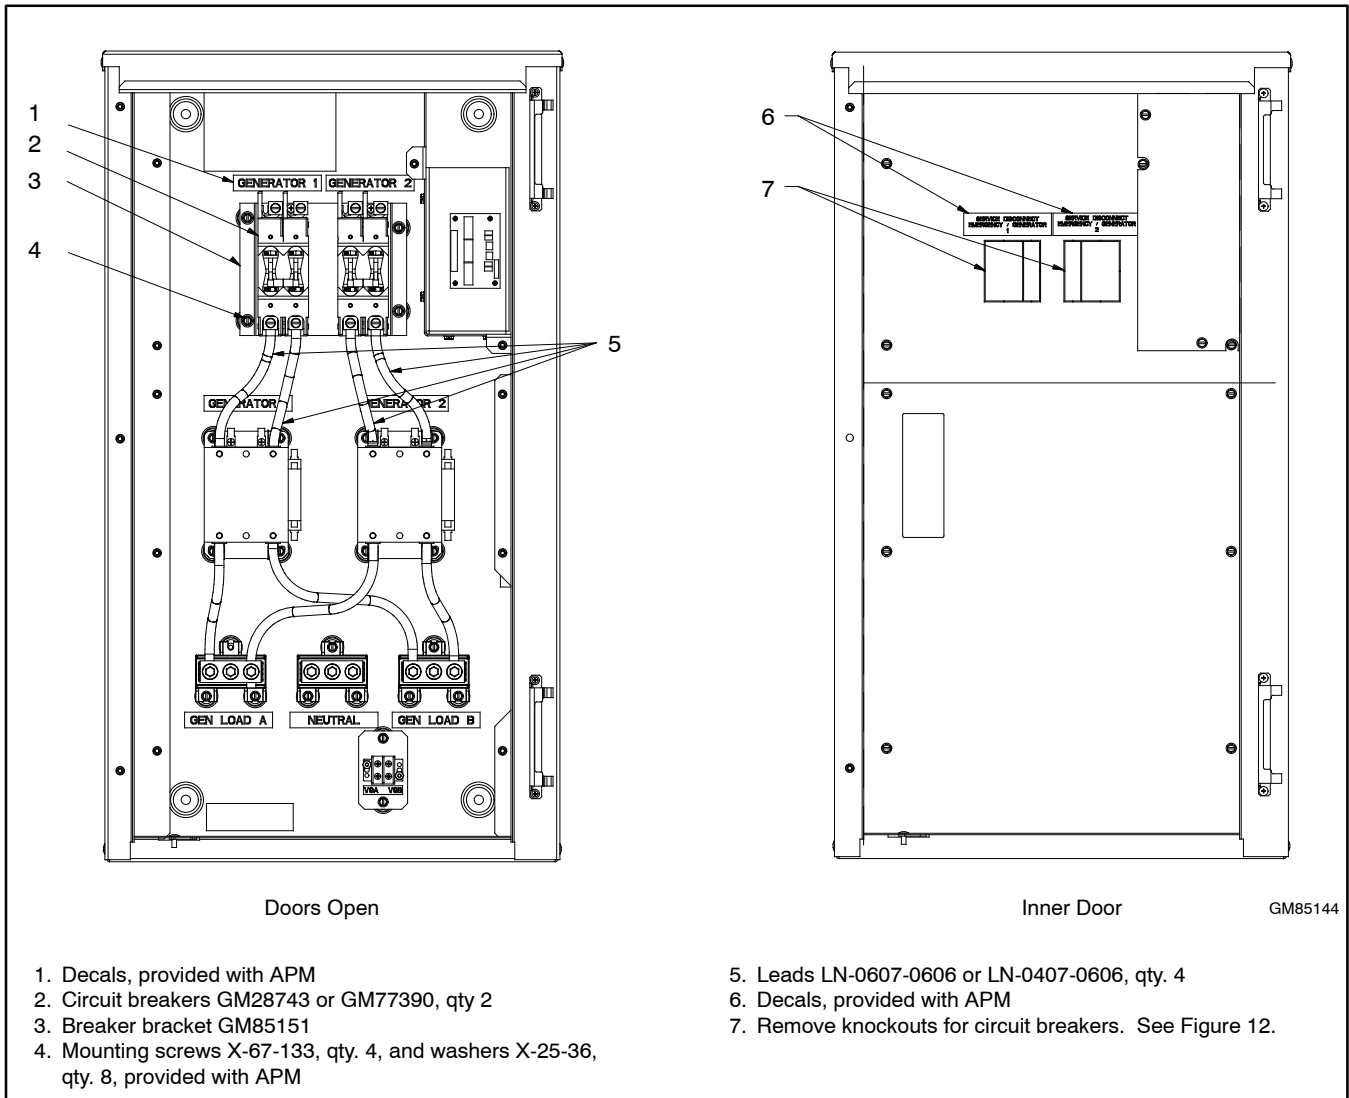
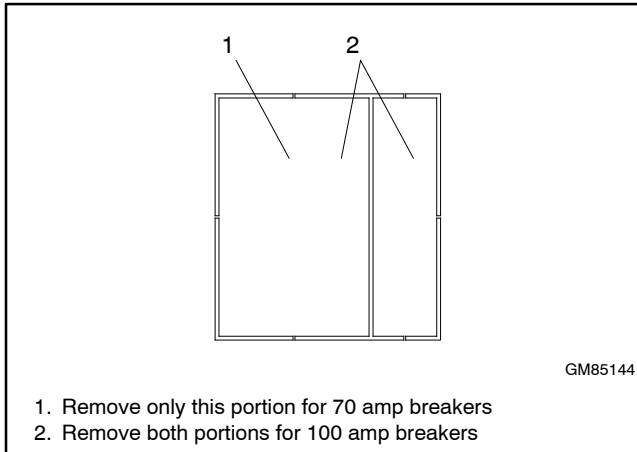
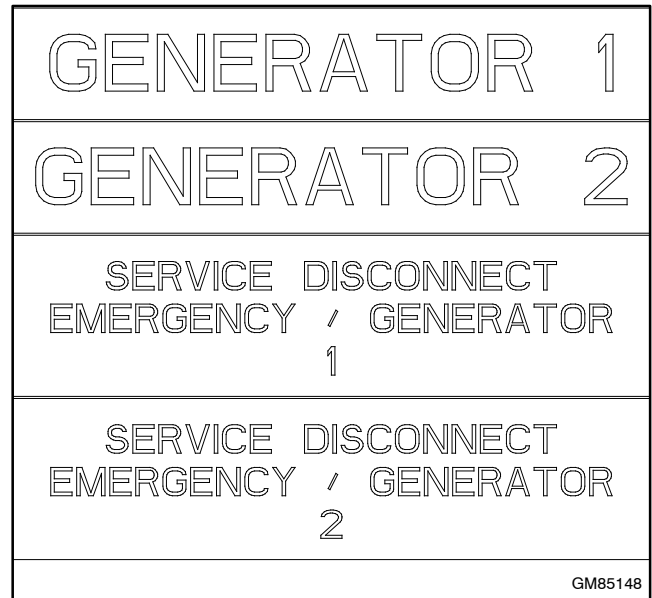
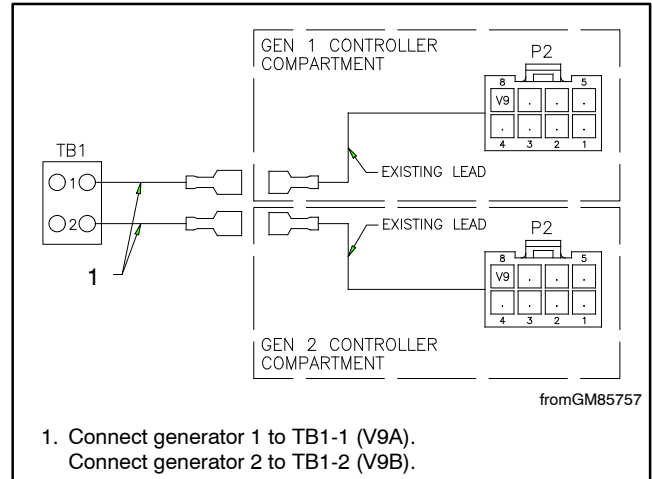

Figure 9 Circuit Breaker Kit Installation Inside the APM Enclosure
Figure 12 Circuit Breaker Knockouts
Figure 13 Decals provided with APM
Figure 14 Voltage Sensing Connections
- a. Remove the 4 existing screws X-67-133 and 8 existing washers X-25-36 from the back wall of the enclosure. See Figure 9. Save the screws; the washers can be discarded.
- b. Connect the circuit breakers to the APM contactors using 4 leads LN-0607-0606 provided with the circuit breaker kit. See Figure 9 and the wiring diagram in Section 8 for circuit breaker connections.
- d. Connect the circuit breakers to the APM contactors using 4 leads LN-0407-0606 provided with the circuit breaker kit. See Figure 9 and the wiring diagram in Section 8 for circuit breaker connections.
13. See Figure 9 and Figure 12. Carefully remove the knockouts for the circuit breakers in the inner cover of the enclosure:
14. The decals shown in Figure 13 are provided in the literature bag with the APM. Attach the GENERATOR 1 and GENERATOR 2 decals above the circuit breakers as shown in Figure 9.
15. Attach the Service Disconnect decals to the outside of the inner cover near the openings for the circuit breakers. Be sure to correctly label the breakers for Generator 1 and Generator 2. See Figure 13 and Figure 9.
4. Connect the voltage sensing leads from both adaptor harnesses installed in the generator compartment in step 5 to terminal block TB1 in the APM. See Figure 9 and Figure 14.
- Check the connection of the sensing wire to V9 on the generator wiring harness. See Figure 14.